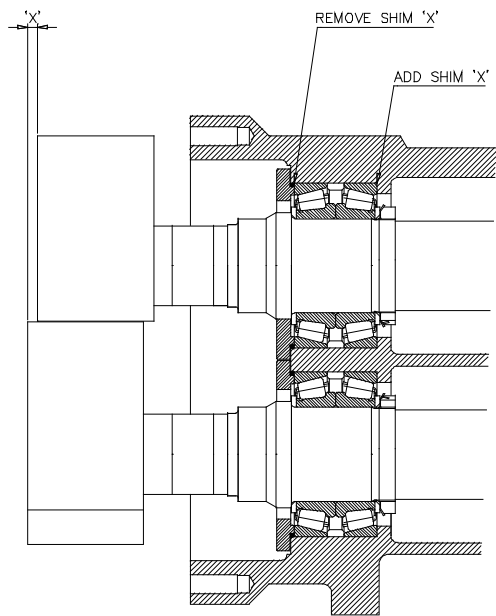

Figure 35
- Using a depth micrometer or similar device measure any difference (X) in rotor front face alignment, see Figure 35. If a difference is found move shims (5.04) of thickness equal to the difference (X) from beneath the lower rotors bearing retainer (5.06) and reposition under the front bearing (5.05) cup.